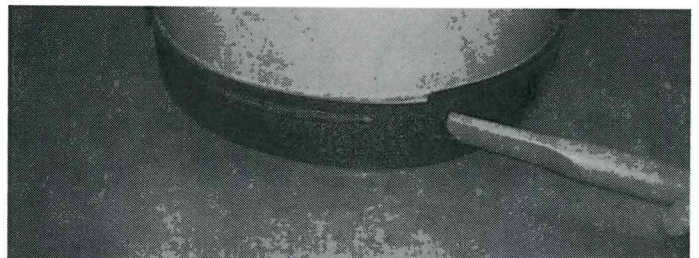

Figure 7
2. The filter can be cleaned using a vacuum (See Figure 7). It is not necessary to remove the filter to clean the back sections.